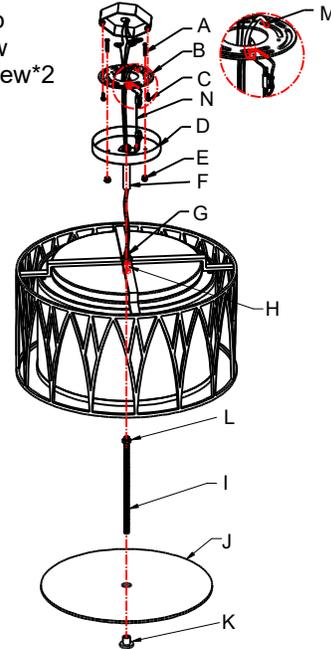

Fig. 2
### CONNECTING THE WIRES (Fig. 2)
7. At this point, connect the fixture wires to the outlet box wires as shown in Fig. 2, making sure that all wire connectors are secured. If your outlet has a ground wire (green or bare copper), connect the fixture's ground wire to it. Otherwise, connect the fixture's ground wire directly to the circular strap (B) using the green screw provided.